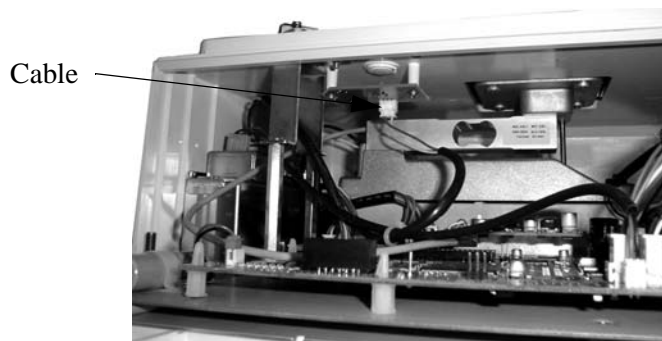

Figure 1. Set-up Switch Board
2. Remove (2) Phillips head screws that fasten column display to scale base. Disconnect inline display cable. Remove column display from scale
4. Remove (4) 7mm hex head screws securing spider. Remove spider from scale
5. Remove (4) 7mm overload stops and (1) 8mm brass sealing screw
6. At the bottom front edge of the scale, remove (2) Phillips screws and (1) 8mm sealing screw closest to front of scale. Detach keyboard ribbon cable from XJ27 connector of main CPU board
7. Detach cable from set-up (calibration) switch board (see Figure 1)
22. Reconnect the cable to the set-up (calibration) switch board (see Figure 1)
23. Install (4) 7mm overload stops and (1) 8mm brass sealing screw
24. Place spider in position. Install (4) 7mm hex head screws securing spider